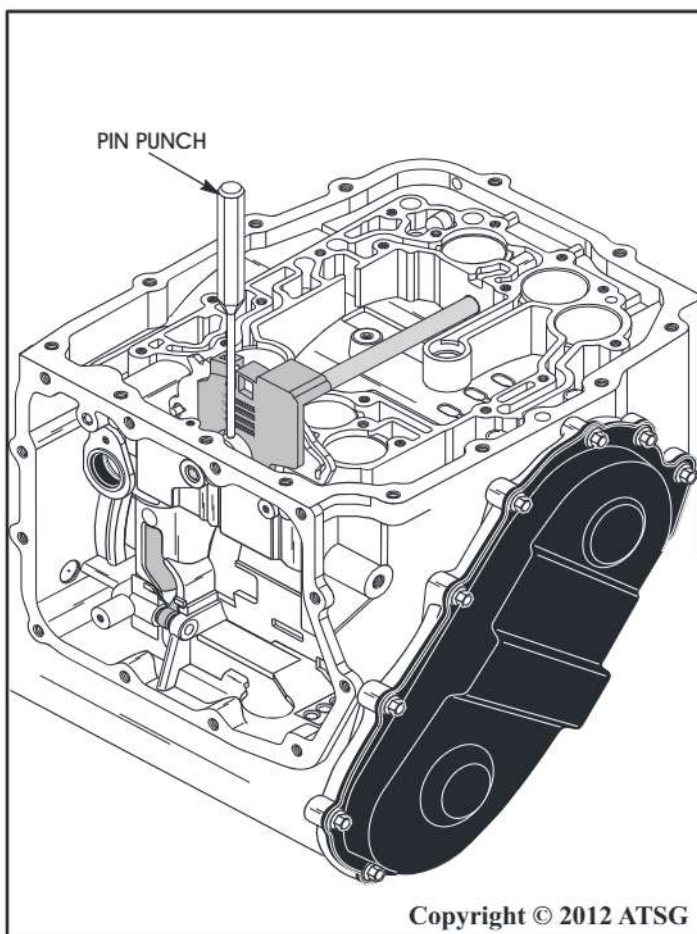

Figure 56
30. Remove the manual shaft roll pin from the inside detent lever, using a pin punch, as shown in Figure 56.